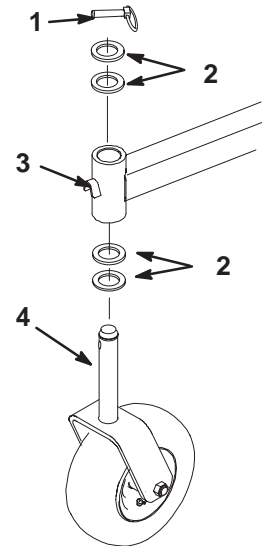

Figure 72
2. Remove the locking pin and spacer(s) from the top of the caster wheel fork (Fig. 72).
6. Inspect the caster wheel fork for wear and replace if necessary (Fig. 72).
7. Slide the caster wheel fork through the bushings in the mounting tube. Replace the spacers(s) onto the fork and secure with the retaining ring (Fig 72).